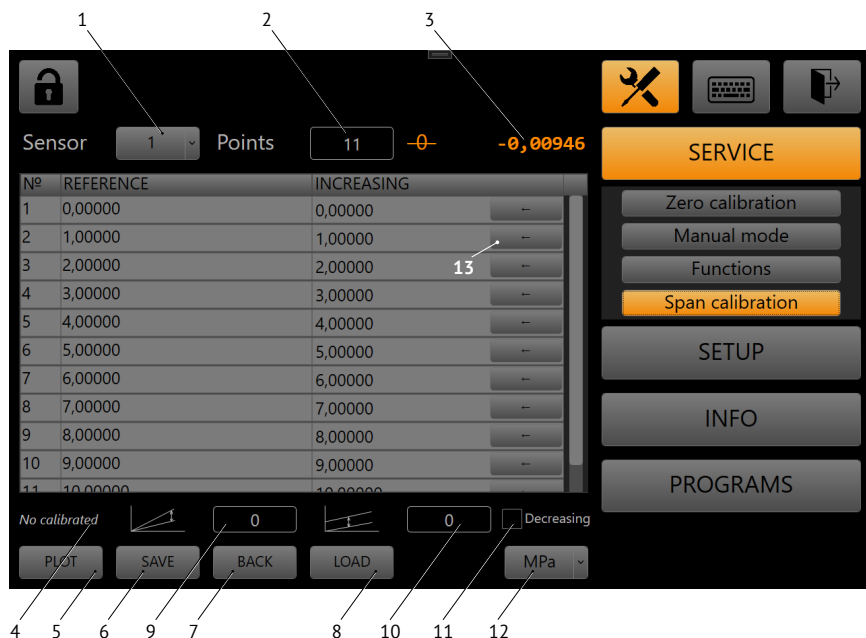

Fig. 12. Calibration of sensors
7.8.2 Calibration of sensors is required after installing new pressure transducers (sensors) into the calibrator or for improving the measurement accuracy of the previously installed ones. To do this, select  **Сервис → Калибровка датчиков [Service → Calibration of sensors]** (Fig. 12).